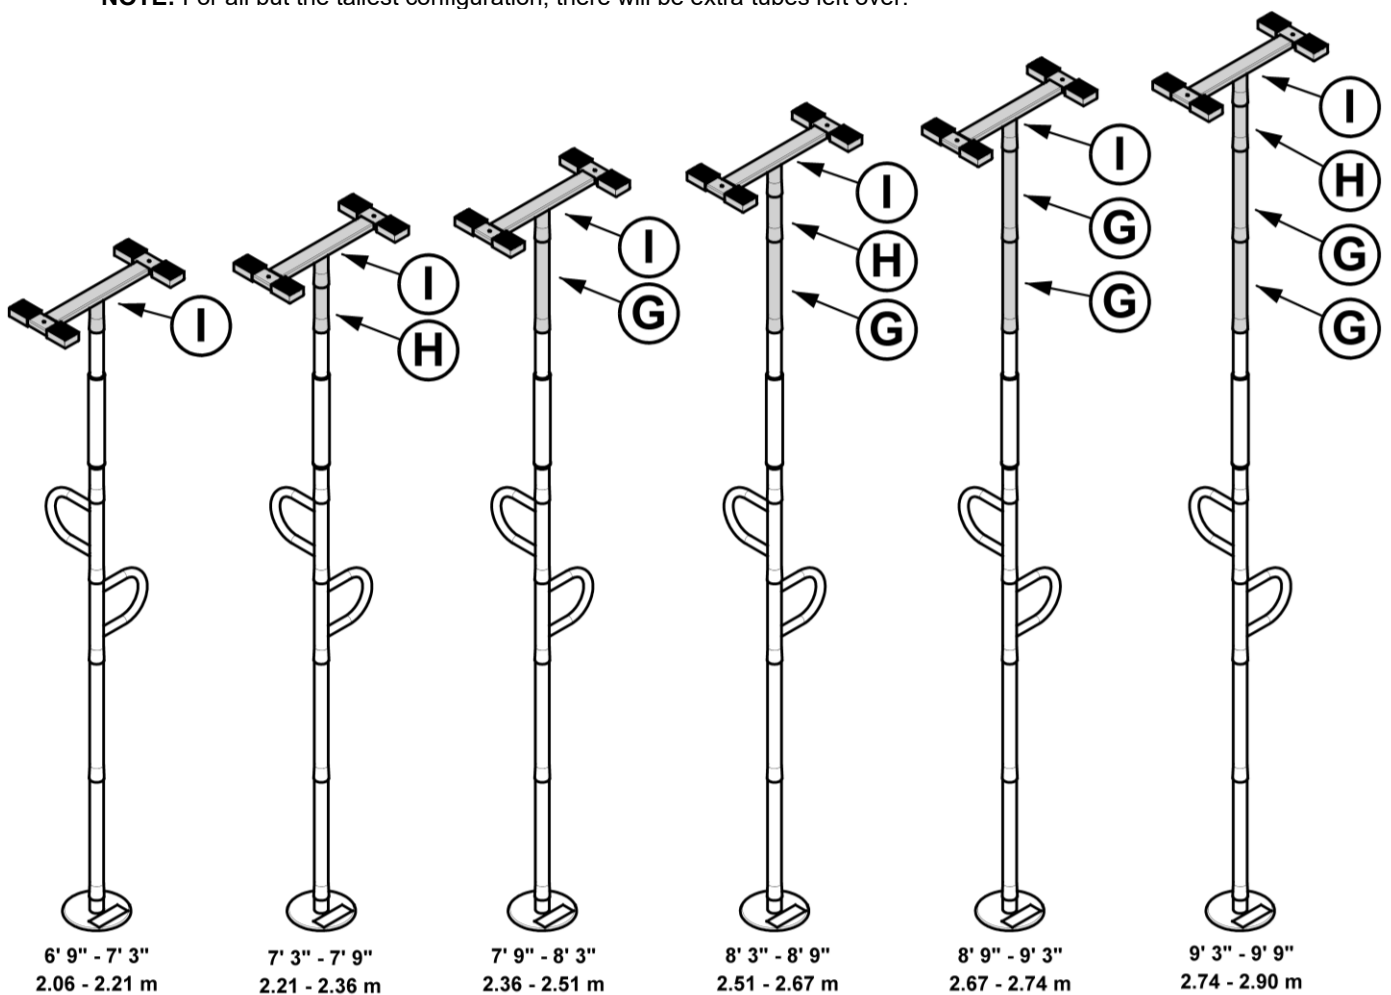

FIGURE 3
- Measure your ceiling height and determine which additional parts will be needed as shown in *FIGURE 3*. Top **I** will always be the last part installed.